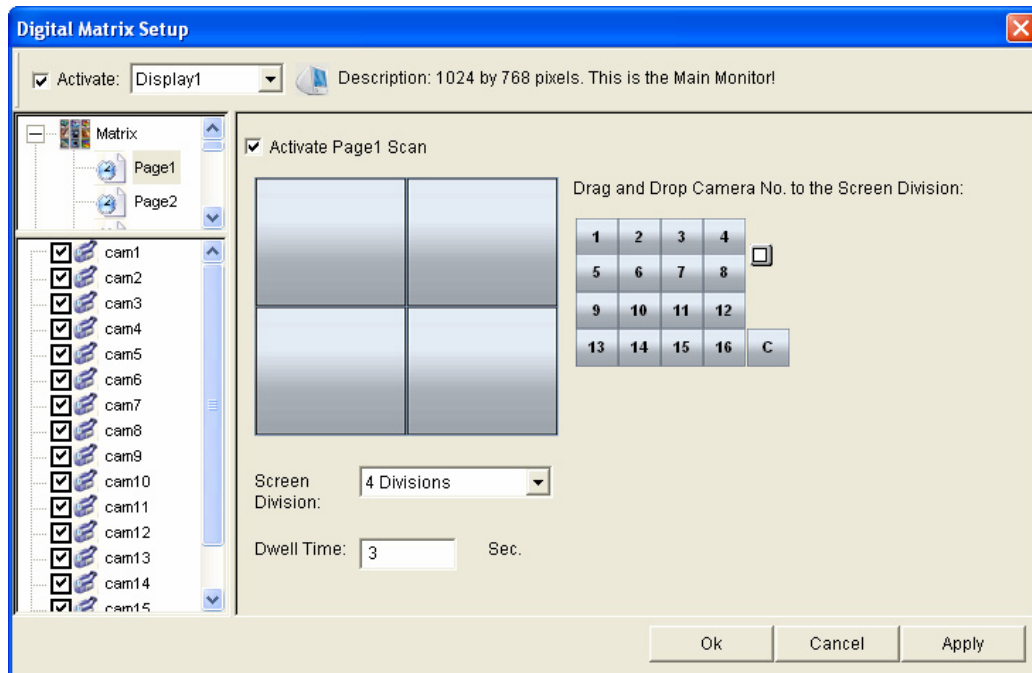

Figure 3-42
4. After above settings, click the **Matrix** icon and return to Figure 3-42.
4. Click the **Matrix** icon and return to Figure 3-42. Ensure the **Live Mode** option is selected.